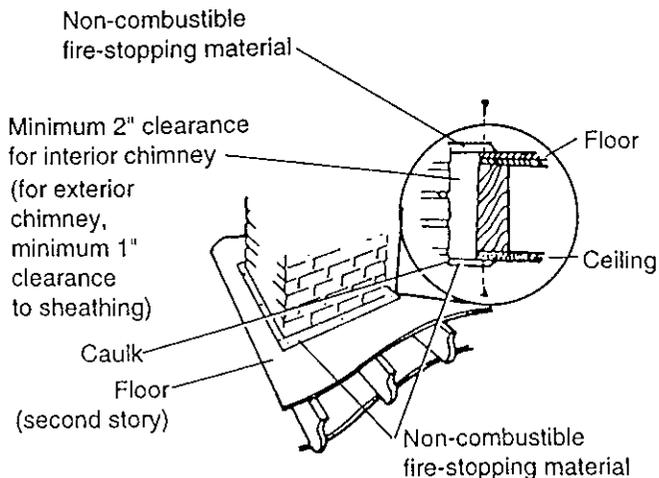

Figure 4
- A chimney inside the house must have at least 2" of clearance to the combustible structure. A chimney outside the house must have at least 1" clearance to the combustible structure. Fire stops must be installed at the spaces where the chimney passes through floors and/or ceilings (Figure 4).